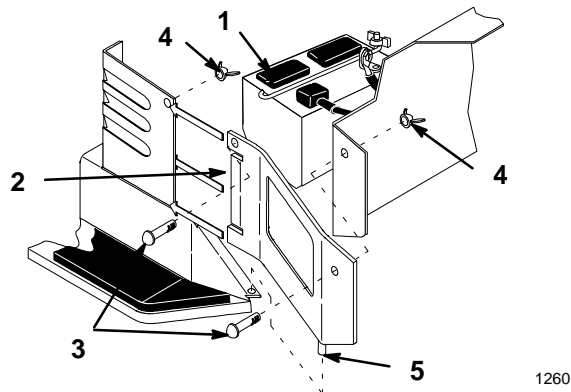

Figure 38
3. Remove side panels for clearance when removing battery (Fig. 38). Remove the wing nuts and screws and lift up to clear pin and slide panel tabs out from steering tower.
7. Install the battery into the chassis (Fig. 38).
11. Install side panels by sliding tabs into steering tower and inserting pin into flange of footrest. Secure with screws and wing nuts (Fig. 38).